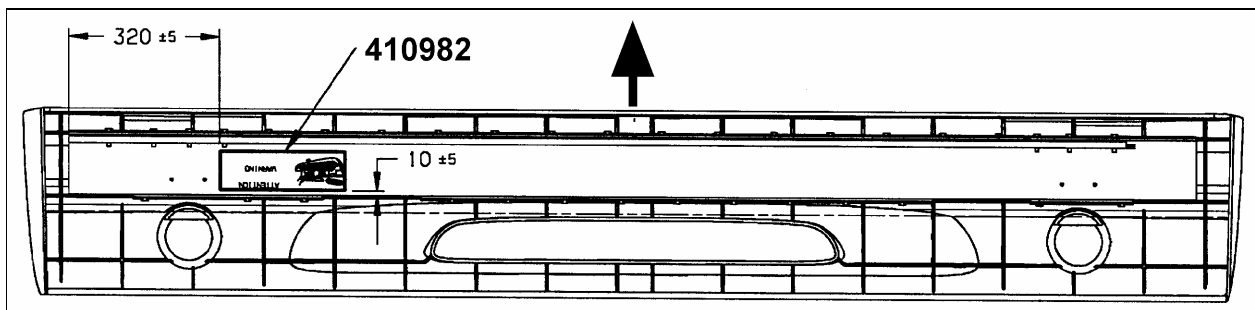

FIGURE 3
- Unfasten the four bolts (506) fixing the latch-bolt guide (504).
- Note:** Make sure bumper closes properly. If this is not the case, unfasten two bolts (509) and adjust plate (510).
- Reinstall lowering mechanism protective cover (500).
- For coaches only, install decal (410982) inside front bumper as per figure 3.